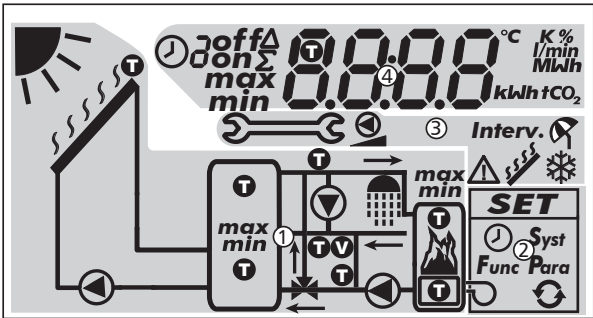

Fig. 8: Overview of the display areas (all elements visible)
The following table describes the symbols used in the system graphics (① in Fig. 8).
The settings menu (② in Fig. 8) contains the following entries:
The following table describes the pictograms used for functions (③ in Fig. 8).
The display of the operational and setting values (④ in Fig. 8) consists of the following elements:
①	Symbol for time control of functions. This symbol is displayed when <ul style="list-style-type: none"> a time restriction/control has been set, the status of time restriction/control is displayed, the time restriction blocks a temperature control (symbol flashes).
②	Number of the time window that is currently being set/displayed or within which the current time lies. The time control of a function consists of 1 to 3 configurable time windows. Example: Time window 1 06:00 – 08:00 Time window 2 11:00 – 12:30 Time window 3 17:00 – 19:00
③	Additional information: on, off: Switching state/condition on , off max, min: Maximum value, minimum value Σ: Summed operational value since first commissioning, cannot be reset Δ: Summed operational value since last reset to 0
④	Symbol is displayed when a temperature sensor is selected when setting a function.
⑤	Display of: <ul style="list-style-type: none"> Measurements Settings Error codes Additional information, e.g. software version
⑥	Physical unit of the value displayed in ⑤